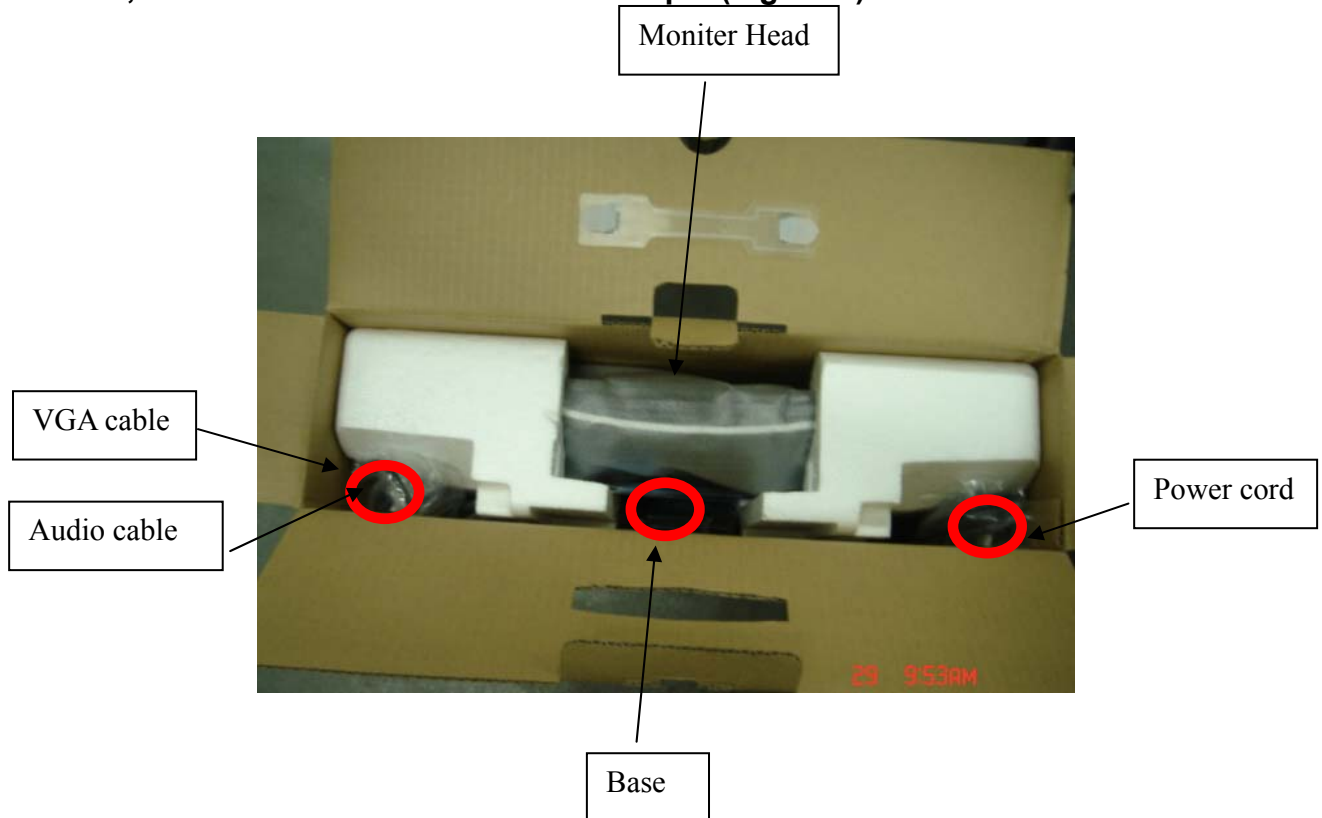

Figure 3
1.4 Place the monitor into the carton and then put all the accessories into the carton. At last, close the carton and seal it with tape. (Figure 3)